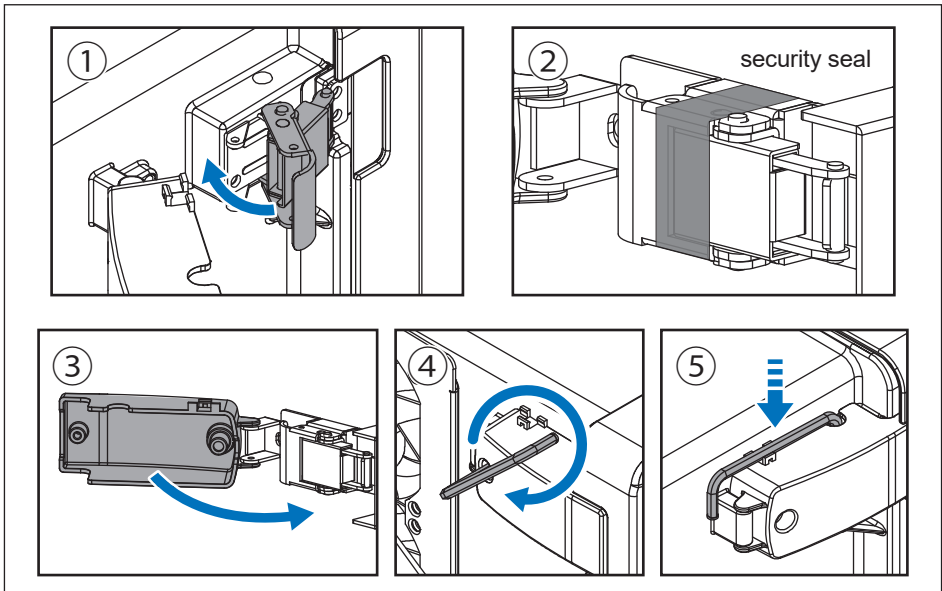

Figure 5-4: Close the door
4. Buckle the latch lock as **Figure 5-4-①** and apply a brand new one-time-use security seal (item 5, **Table 2-1**) on the toggle latch as **Figure 5-4-②**.
5. Fix the protection cover by the hexagon wrench as **Figure 5-4-④**.
6. The hexagon wrench can be fixed on the protection cover as **Figure 5-4-⑤**.